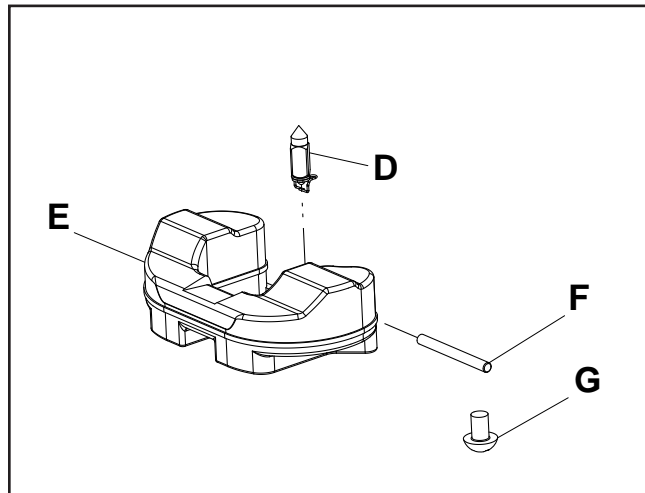

Figure 11
1. Loosen the screw (G) (Figure 11), remove the float pin (F). Remove the float (E) and needle (D).